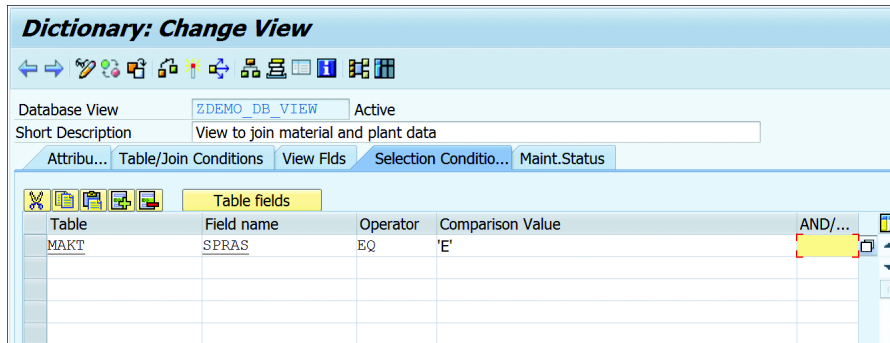

Figure 10.38 Select Conditions
- Optionally, you can maintain the select condition under SELECT CONDITIONS tab (see Figure 10.38).